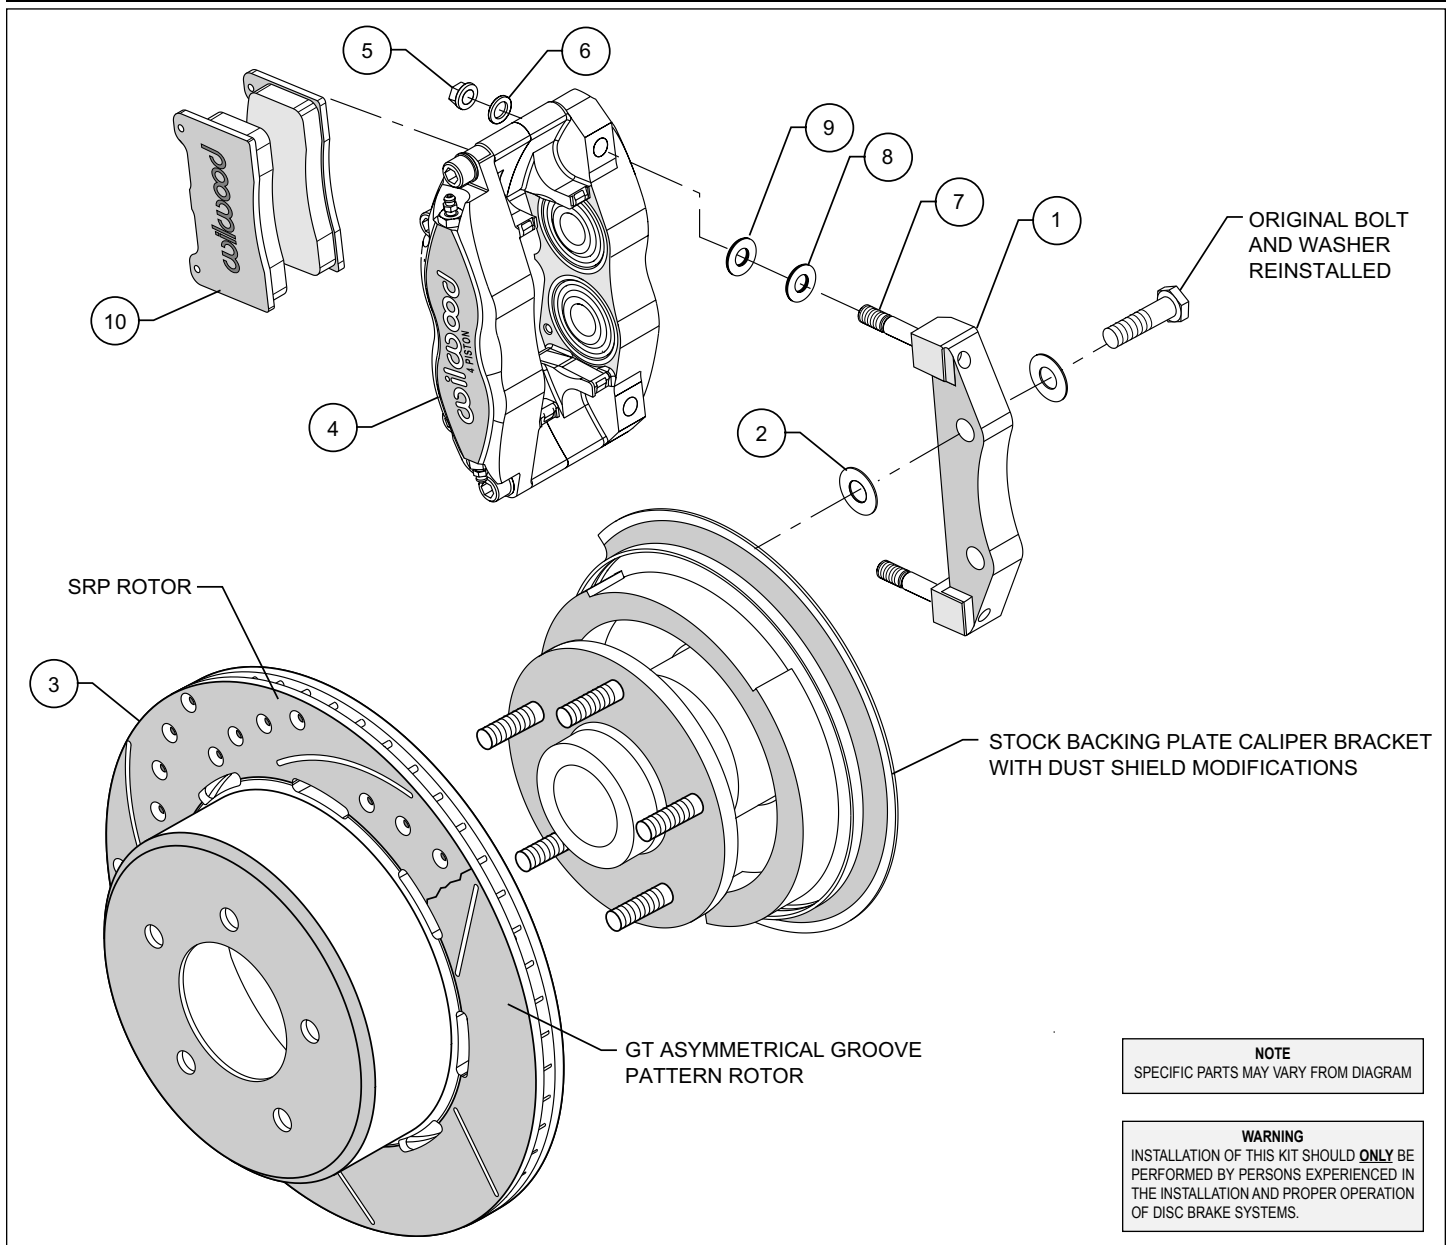

Figure 1. Typical Installation Configuration
- The caliper mounting bracket assembly (1) should be installed first with clean, dry threads on the mounting bolts. Install the bracket from the rear side of the spindle by sliding the original stock bolts through the washer and bracket(1). Place shim washer (2) between the bracket (1) and the spindle (see Figure 1). The bracket must tighten squarely against the side of the spindle body. Inspect for interference from casting irregularities, machining ridges, burrs, etc. Use one thin shim (2) between the bracket (1) and spindle during initial trial fitting.